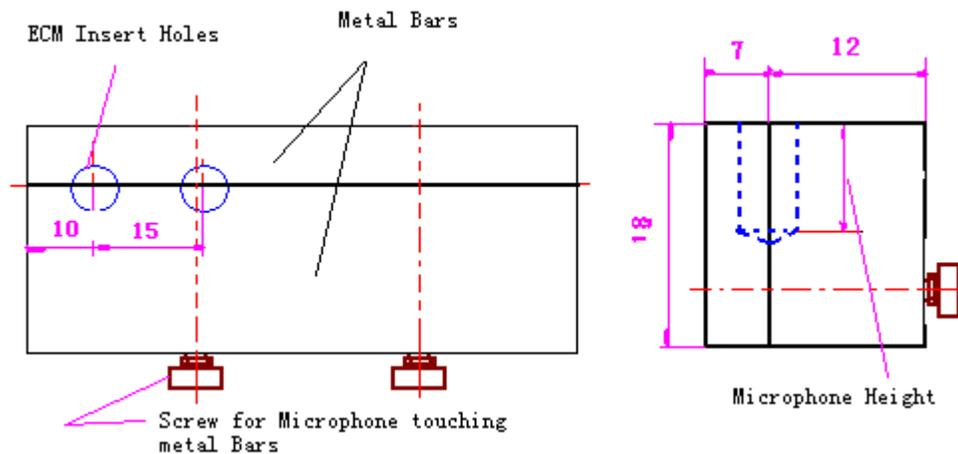

Figure 2
5. **Holder Heat Sink:** A good thermal conducting material (Brass, Aluminum, Copper) in bar form to be fabricated with corresponding diameters when two bars are positioned together. The bars should have appropriate diameter drilled holes that are properly vented to not allow any pressure to form on diaphragms. (See **Figure 2** below)